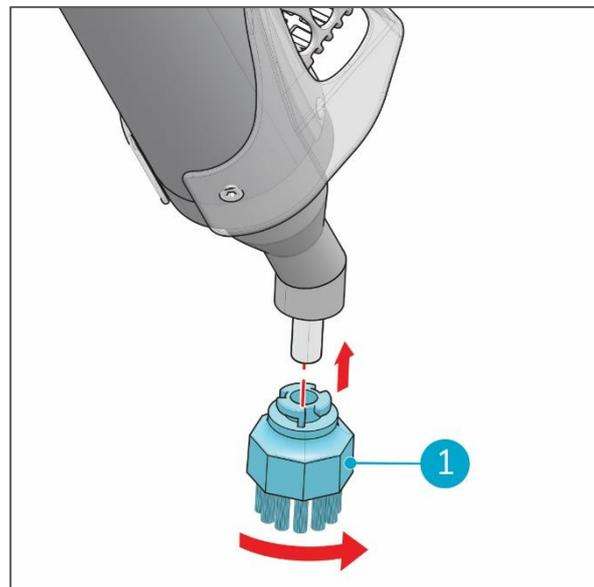

Figure 31
2. Unscrew the old brush by a small turn clockwise (right) and pull (Figure 31).